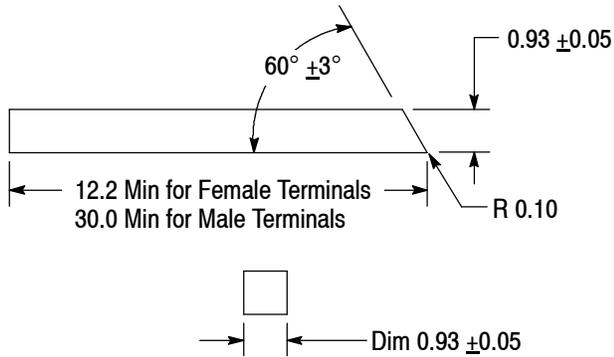

Figure 4
The locking lance of the contact must be released from the contact cavity before the contact can be removed from the socket connector. A suitable tool, (see Figure 4), must be inserted into the corresponding contact removal window to release the
1. Insert contact removal tool (as detailed in Figure 4) or a jewelers/flat-bladed screwdriver (1.0 mm width) into the selected exposed contact cavity, as shown in Figure 5.